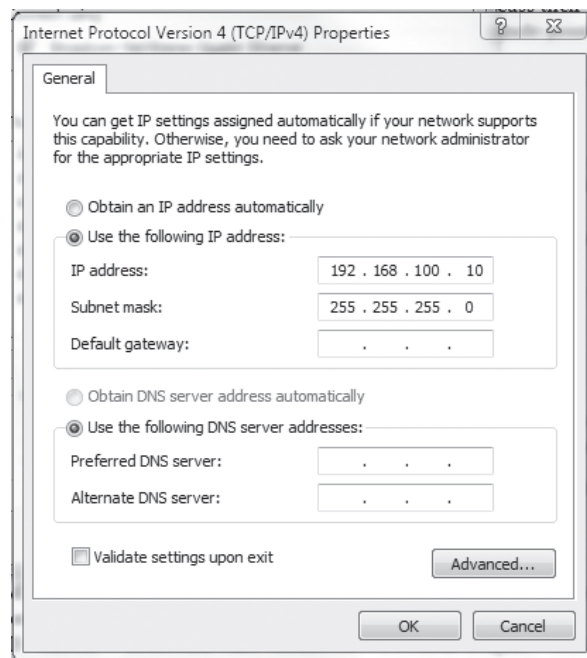

Fig. 3-4, Windows 7® Internet Protocol Version 4 (TCP/IPv4) Properties
8. Select **Use the following IP address** (See Fig. 3-4). Enter the values as shown (i.e. IP address 192.168.100.10 and Subnet mask 255.255.255.0).